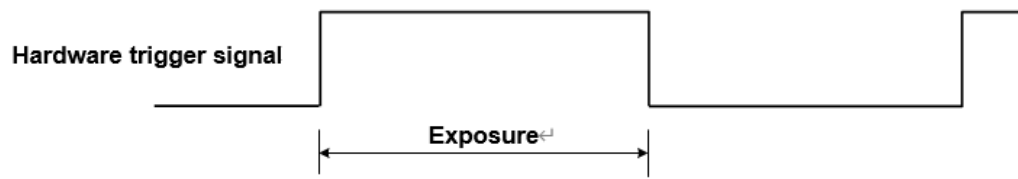

Figure 8-28 The sequence diagram in rising edge trigger of TriggerWidth exposure mode
- If rising edge triggering is enabled, exposure starts when the trigger signal rises and continues until the trigger signal falls, as shown in Figure 8-28.